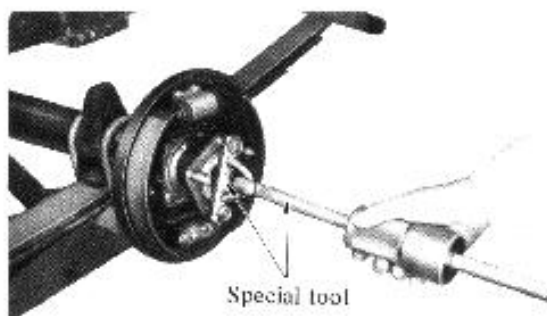

Fig. 10-7
9. Install the special tool rear axle shaft puller (09922 66010) in position as shown in the Fig. 10-7 and drive out the shaft with the aid of a sliding hammer.